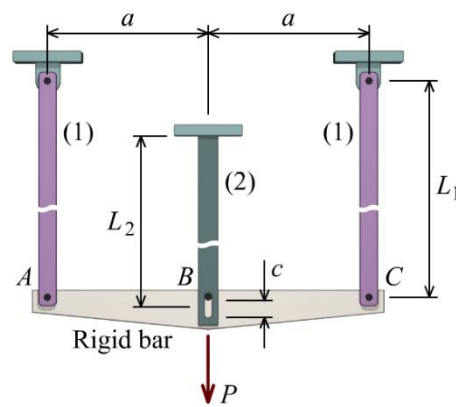

FIGURE P2.6
P2.6 The rigid bar ABC is supported by three bars as shown in Figure P2.6. Bars (1) attached at A and C are identical, each having a length of $L_1 = 160$ in. Bar (2) has a length of $L_2 = 110$ in.; however, there is a clearance of $c = 0.25$ in. between bar (2) and the pin in the rigid bar at B . There is no strain in the bars before the load P is applied, and $a = 50$ in. After application of load P , the tensile normal strain in bar (2) is measured as $960 \mu\epsilon$. What is the normal strain in bars (1)?
P2.8 The sanding-drum mandrel shown in Figure P2.6 is made for use with a hand drill. The mandrel is made from a rubber-like material that expands when the nut is tightened to secure the sanding sleeve placed over the outside surface. If the diameter D of the mandrel increases from 2.00 in. to 2.15 in. as the nut is tightened, determine